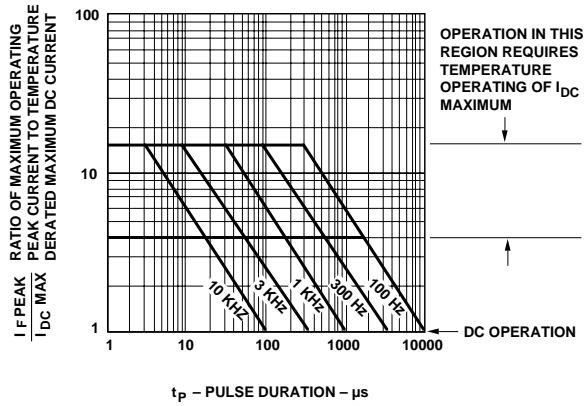

Figure 1. Maximum Tolerable Peak Current vs. Pulse Duration - AlGaAs Red.
1. See Figure 1 to establish pulsed conditions.